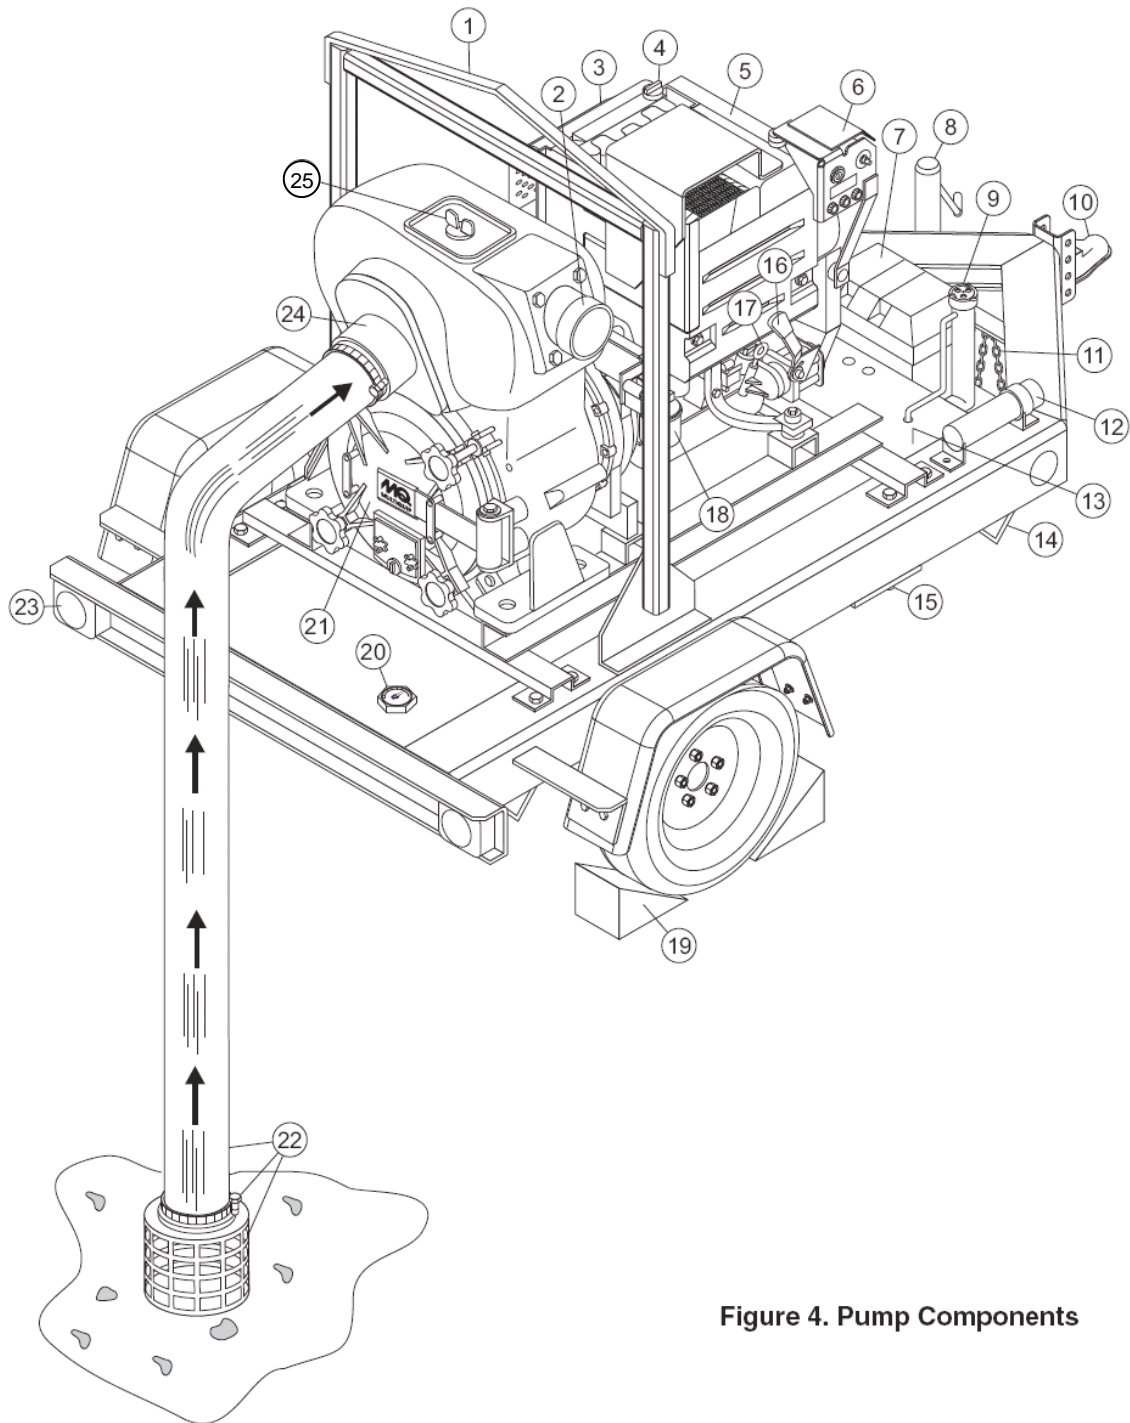

Figure 4. Pump Components
Figure 4 shows the location of the components and basic components for the QP60TD trash pump, The function of each component or control is described below:
3. To prime pump, remove fill cap (Figure 4) and fill pump case with water. If the pump case is not filled with water before starting, it will not begin pumping.
1. Check that all hoses are **securely** attached to the pump. Make certain suction hose (Figure 4) does not have any air leakage. Tighten hose clamps and couplings as required.
4. Check that the **discharge** hose (Figure 4) is not restricted. Place hose so that it lays as straight as it is possible on the ground. Remove any twists or sharp bends from hose which may block the flow of water.
5. Make sure the **suction strainer** (Figure 4) is clean and securely attached to the water end of the suction hose. The strainer is designed to protect the pump by preventing large objects from being pulled into the pump. Failure to use a strainer could cause damage to the pump, impeller, pump shaft, pump bearings, or wear plate. Pump casing must be filled with water before using pump, otherwise pump will not be able to begin pumping.